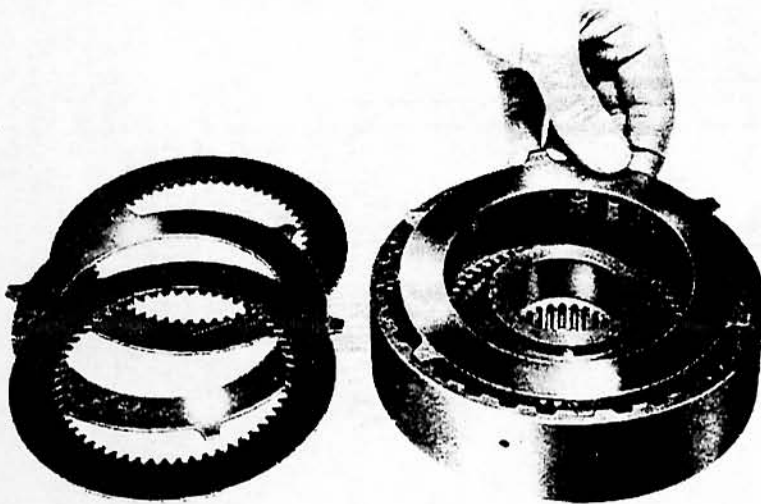

FIGURE 32.
5. Alternatively install the three clutch discs and two remaining clutch plates (Figure 32).